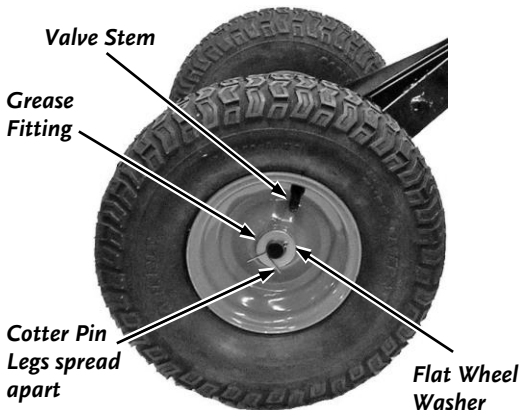

Figure 6
6. Slide a Wheel onto each Axle making sure that the Valve Stem is facing the outside (**Figure 6**).